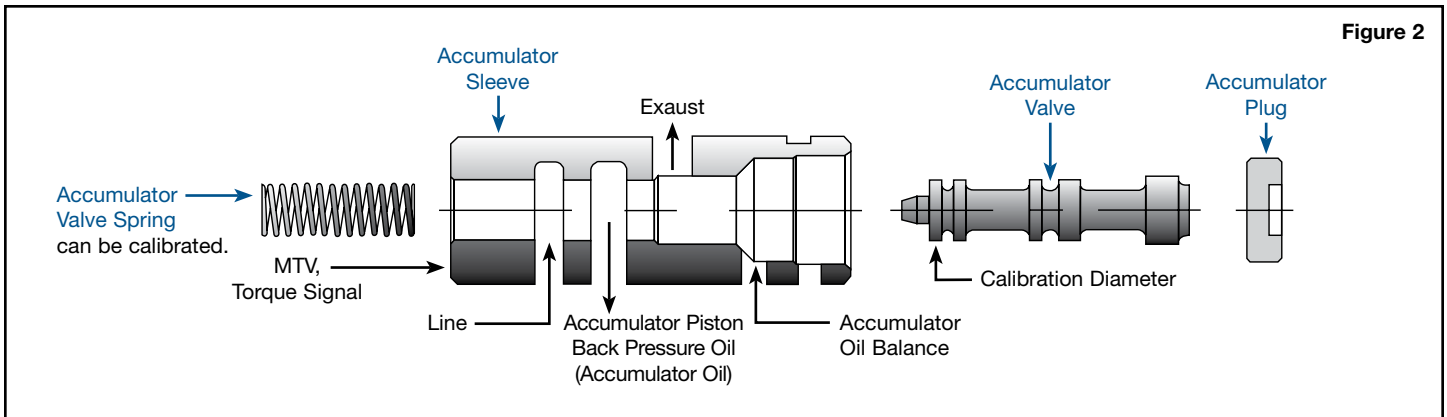

Figure 2
- e. Install Sonnax accumulator valve into sleeve, oriented as shown (Figure 2).